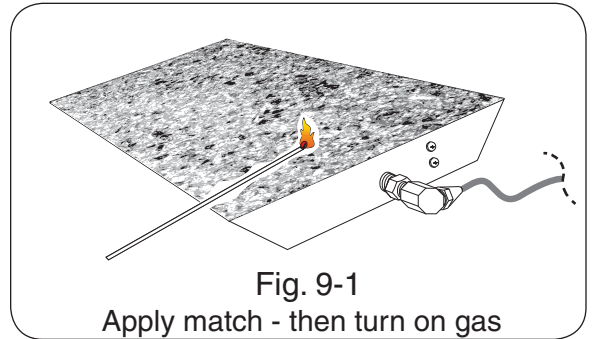

Fig. 9-1
1. Lay a lighted long-stem match on the surface of the glass/gems near the gas inlet (**do not hold the match in your hand**) or use a lighted long-necked butane lighter (Fig. 9-1).
4. Wait approximately five (5) minutes to clear out any gas, and repeat steps 1-3 above.